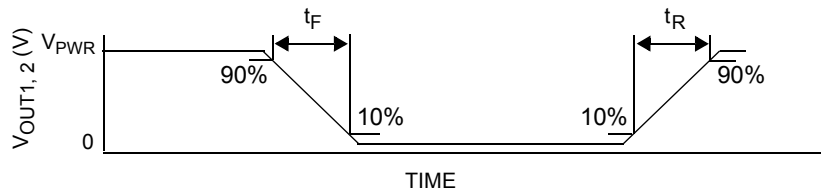

Figure 6. Output Switching Time
27. Rise Time is from the 10% to the 90% level and Fall Time is from the 90% to the 10% level of the output signal with  $V_{PWR} = 14\text{ V}$ ,  $R_{LOAD} = 3.0\text{ ohm}$ . See Figure 6, page 10.